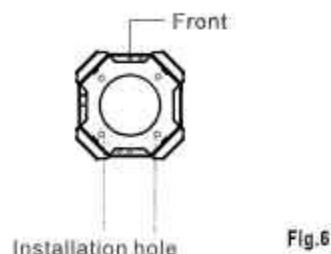

Fig.6
1. Follow Fig.6 indicated direction to put the mounting bracket to the ceiling, mark 4 holes on the ceiling where the hood is to be positioned.